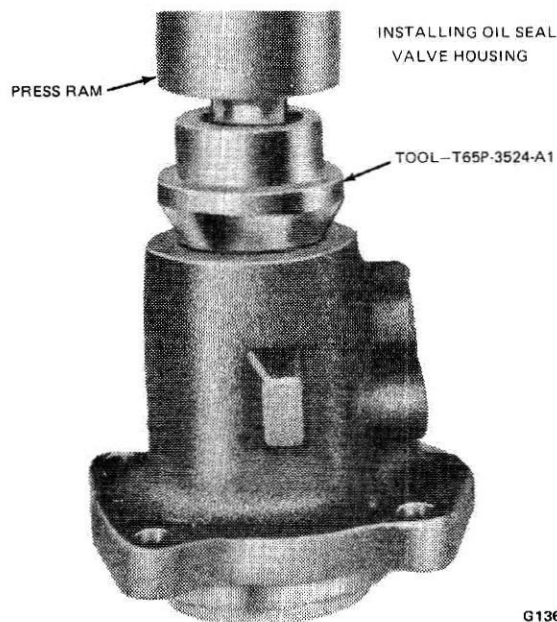

FIG. 12 Installing Oil Seal in Valve Housing
9. Dip a new oil seal in gear lubricant and place it in the housing with the metal side facing outward. Drive the seal into the housing until the outer edge does not quite clear the snap ring groove (Fig. 12).
10. Place the snap ring in the housing and drive the snap ring until ring seats in its groove (Fig. 12).